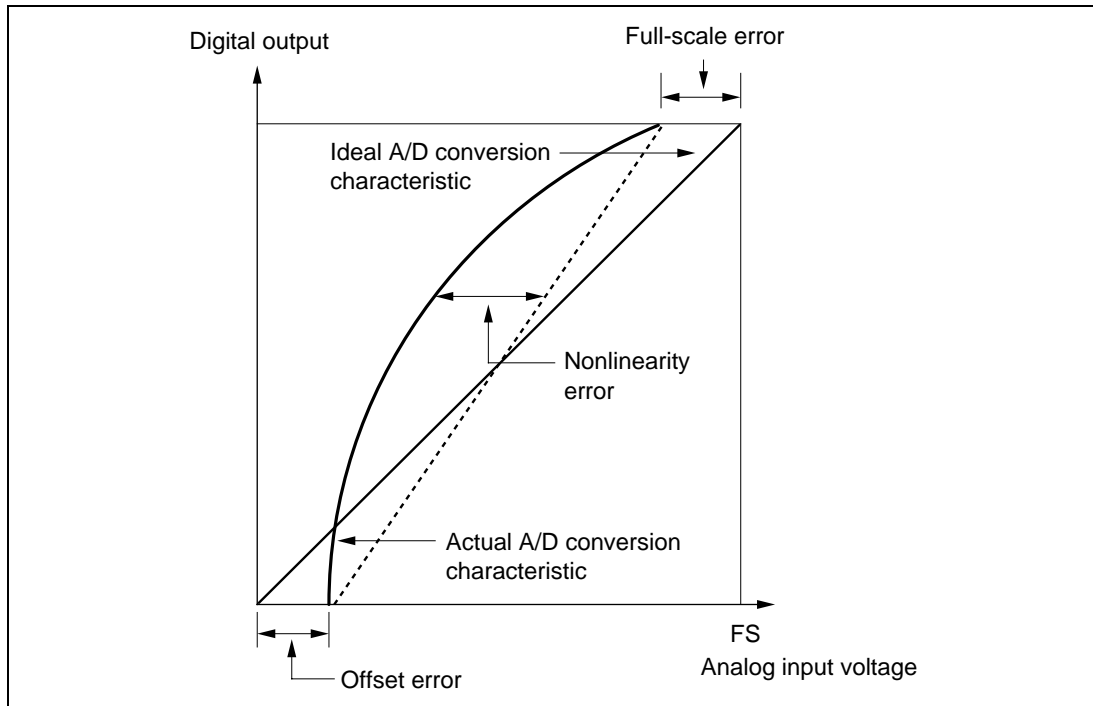

Figure 15-12 A/D Converter Accuracy Definitions (2)
(6) A/D Conversion Accuracy Definitions: A/D conversion accuracy in the H8/539F is defined as follows:
- Offset error: deviation from ideal A/D conversion characteristic of analog input voltage required to raise digital output from minimum voltage value 0000000000 to 0000000001, excluding quantization error (figure 15-12)
- Full-scale error: deviation from ideal A/D conversion characteristic of analog input voltage required to raise digital output from 1111111110 to 1111111111, excluding quantization error (figure 15-12)